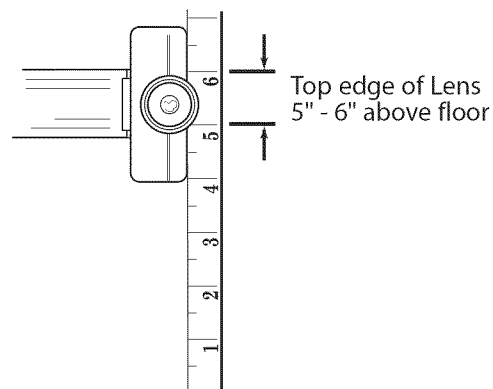

Figure 27 Final Check Safe-T-Beams®
- Check final height of Lens (**Figure 27**).